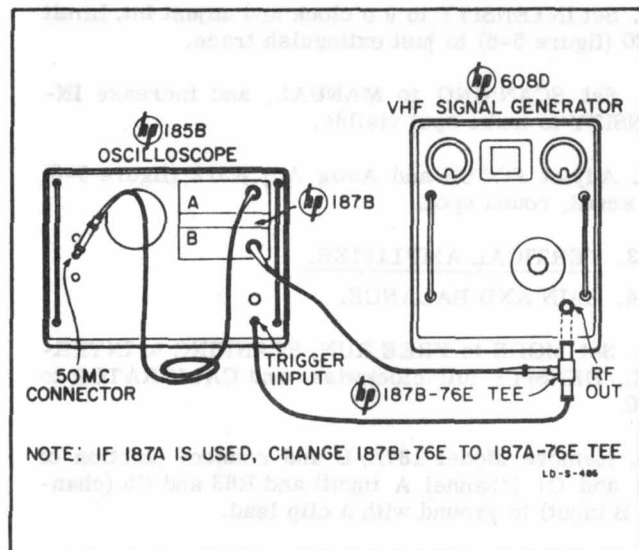

Figure 5-5. Calibrator Instrument Setup
a. Connect equipment as shown in figure 5-5.
- a. Connect equipment as shown in figure 5-5 and set signal generator to 50 mc \pm 250 kc.